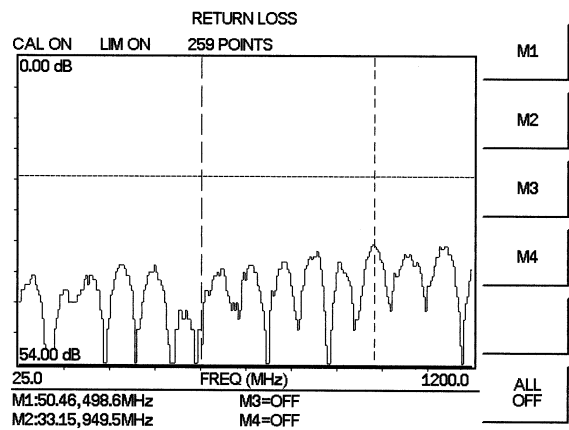

Figure 4-5. Cable Return Loss Measurement Results
Step 17. Observe the displayed measurement. Figures 4-5 and 4-6 show typical SWR and Return Loss measurements with markers and limit line set.
- Step 25.** Repeat steps 22 and 23 for marker M2. Set M2 to 950 MHz (Figures 4-5 and 4-6 depict the Return Loss and SWR measurements).